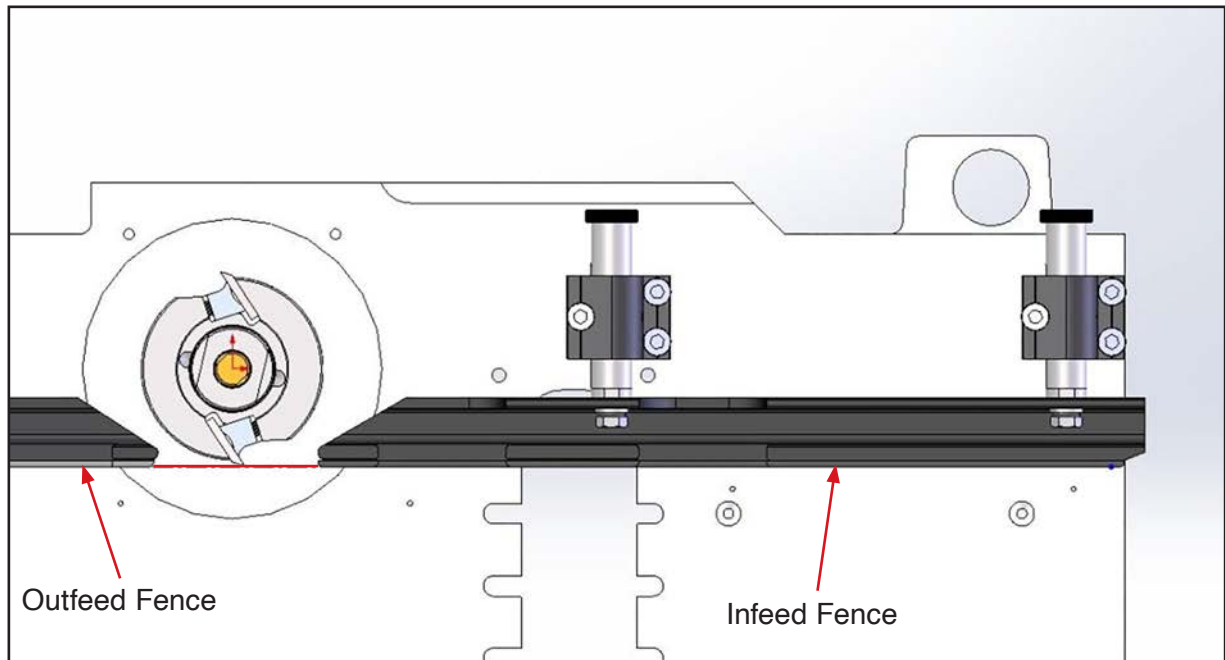

**Figure 46.** Infeed fence aligned with outfeed fence (top view shown).
3. Align the infeed fence to the outfeed fence (see **Figure 46**).